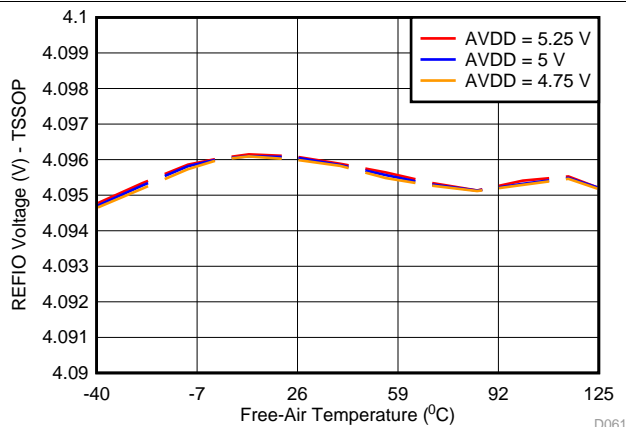

Figure 56. REFIO Voltage Variation Across AVDD and Temperature (PW Package)
The internal reference is also temperature compensated to provide excellent temperature drift over an extended industrial temperature range of -40°C to $+125^{\circ}\text{C}$. Figure 56 and Figure 57 show the variation of the internal reference voltage across temperature for different values of the AVDD supply voltage. The temperature drift of the internal reference is also a function of the package type. Figure 58 and Figure 59 show histogram distribution of the reference voltage drift for the TSSOP (PW) and WQFN (RUM) packages, respectively.